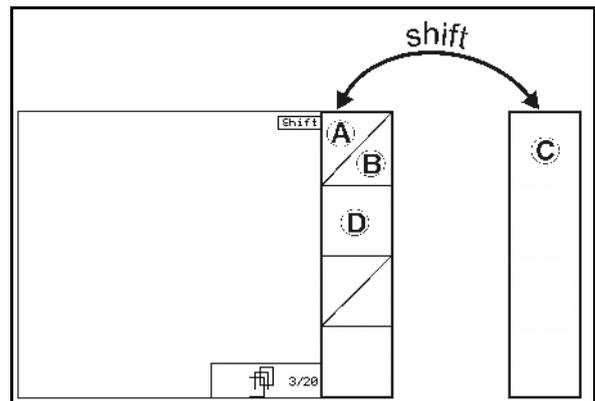

Fig. 10
- You press the Shift key to display more function fields (Fig. 10); the assignment of the function keys changes accordingly.